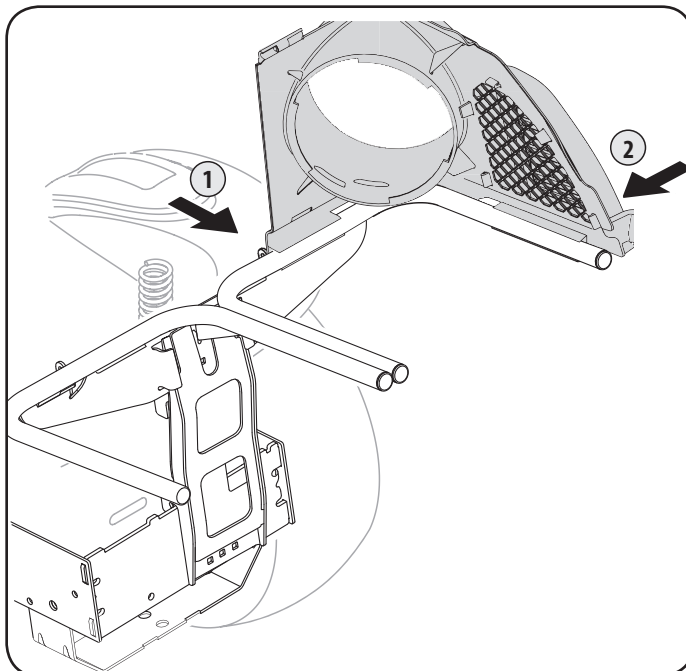

Figure 13
1. Tilt the front of the upper chute support slightly forward and snap the front side latch to the rail, as shown in (1) of Figure 13. Slide clip behind tab.
2. Snap the upper chute support in place by first clipping the side portion onto the bagger support rail with the edge of the snap feature aligned with the red line, see (2) in Figure 13.